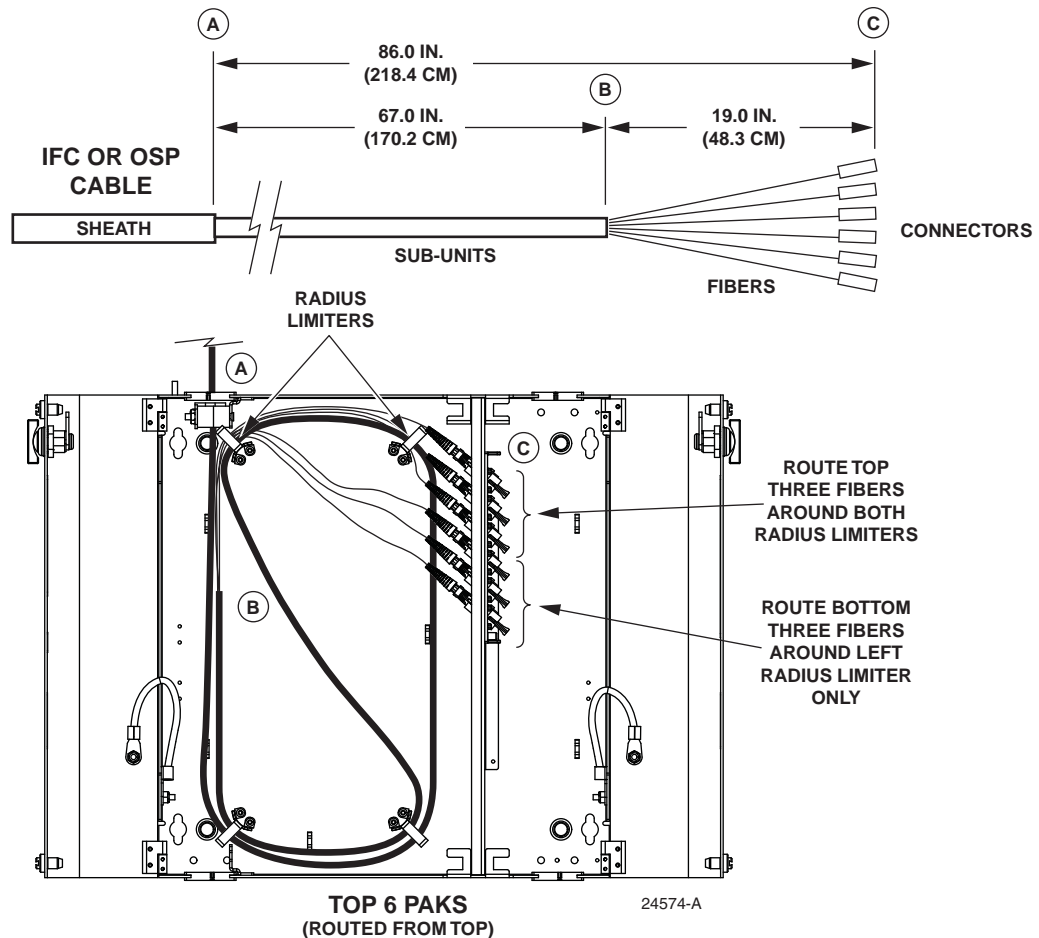
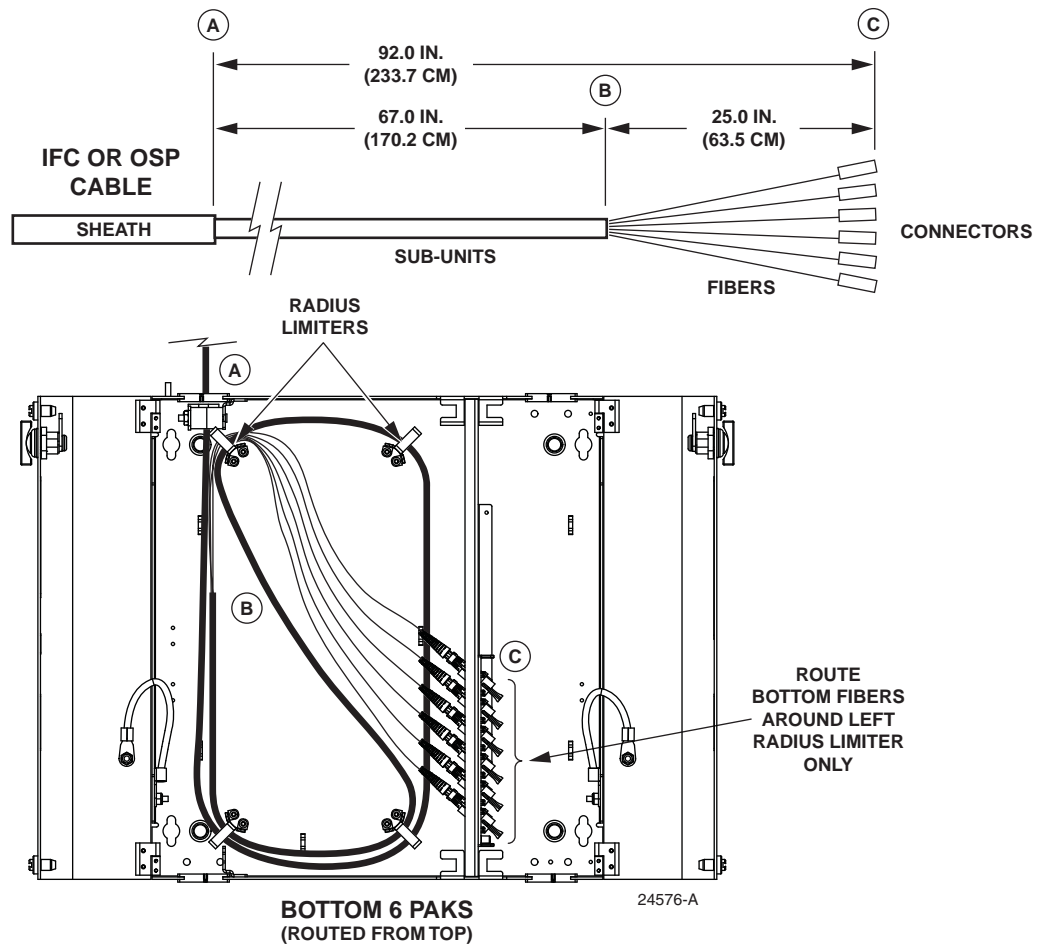
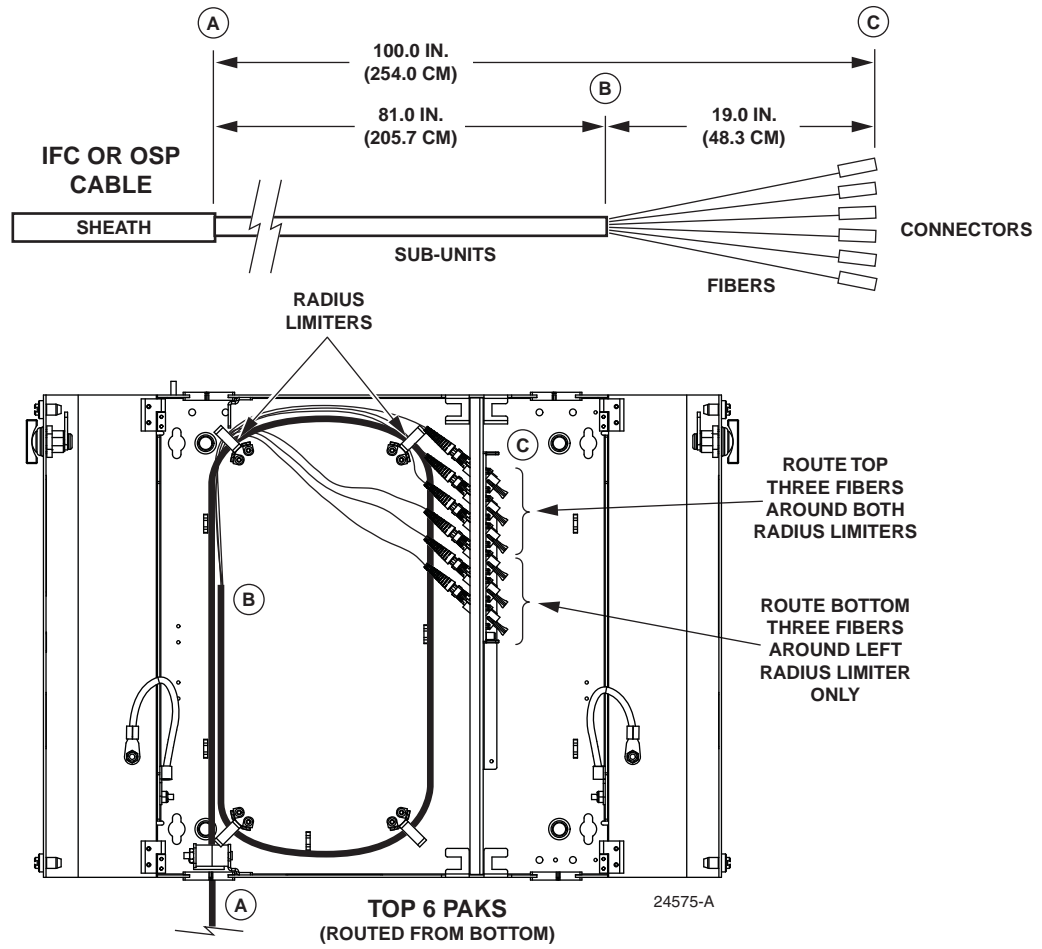
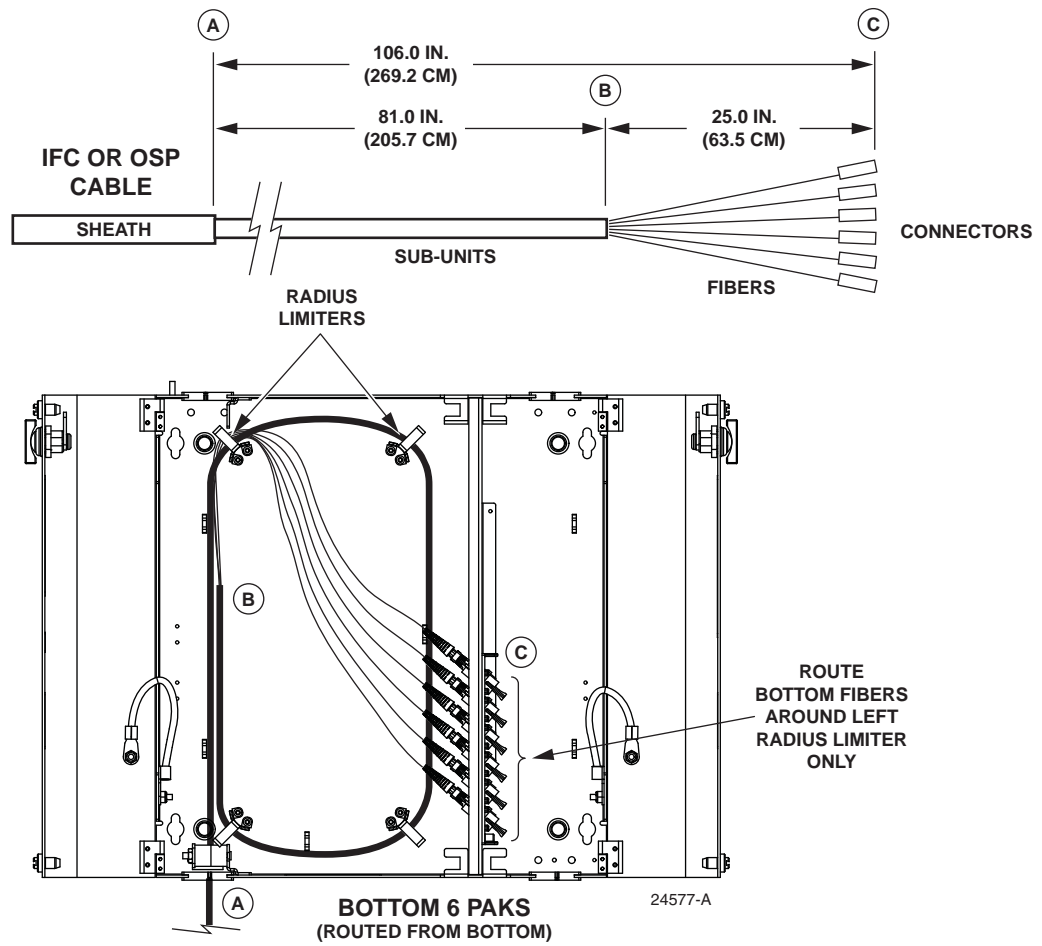

Figure 21. Field Termination Breakout and Routing, 24-Fiber Wall-Mount Box (Top Entry, Top 6paks)
Figure 22. Field Termination Breakout and Routing, 24-Fiber Wall-Mount Box (Top Entry, Bottom 6paks)
Figure 23. Field Termination Breakout and Routing, 24-Fiber Wall-Mount Box (Bottom Entry, Top 6paks)
Figure 24. Field Termination Breakout and Routing, 24-Fiber Wall-Mount Box (Bottom Entry, Bottom 6paks)
This unit can be used for either field termination or splicing. Figure 21 and Figure 22 show the correct breakout for field termination when the cable is routed in from the top. Figure 23 and Figure 24 show the correct breakout for field termination when the cable is routed in from the bottom. Figure 25 shows the correct breakout for splicing.
2. Strip the outer sheath of the cable to expose the inner fiber bundles. Figure 21, Figure 22, Figure 23, and Figure 24 show the correct breakout for termination. Figure 25 shows the correct breakout for splicing. The cable sheath should extend about 0.75 inch (1.9 cm) beyond the cable clamp or compression fitting.
6. Route the fibers within the wall-mount box as shown in Figure 21, Figure 22, Figure 23, Figure 24, or Figure 25. Tie the fibers down in the location shown using cord lacing.